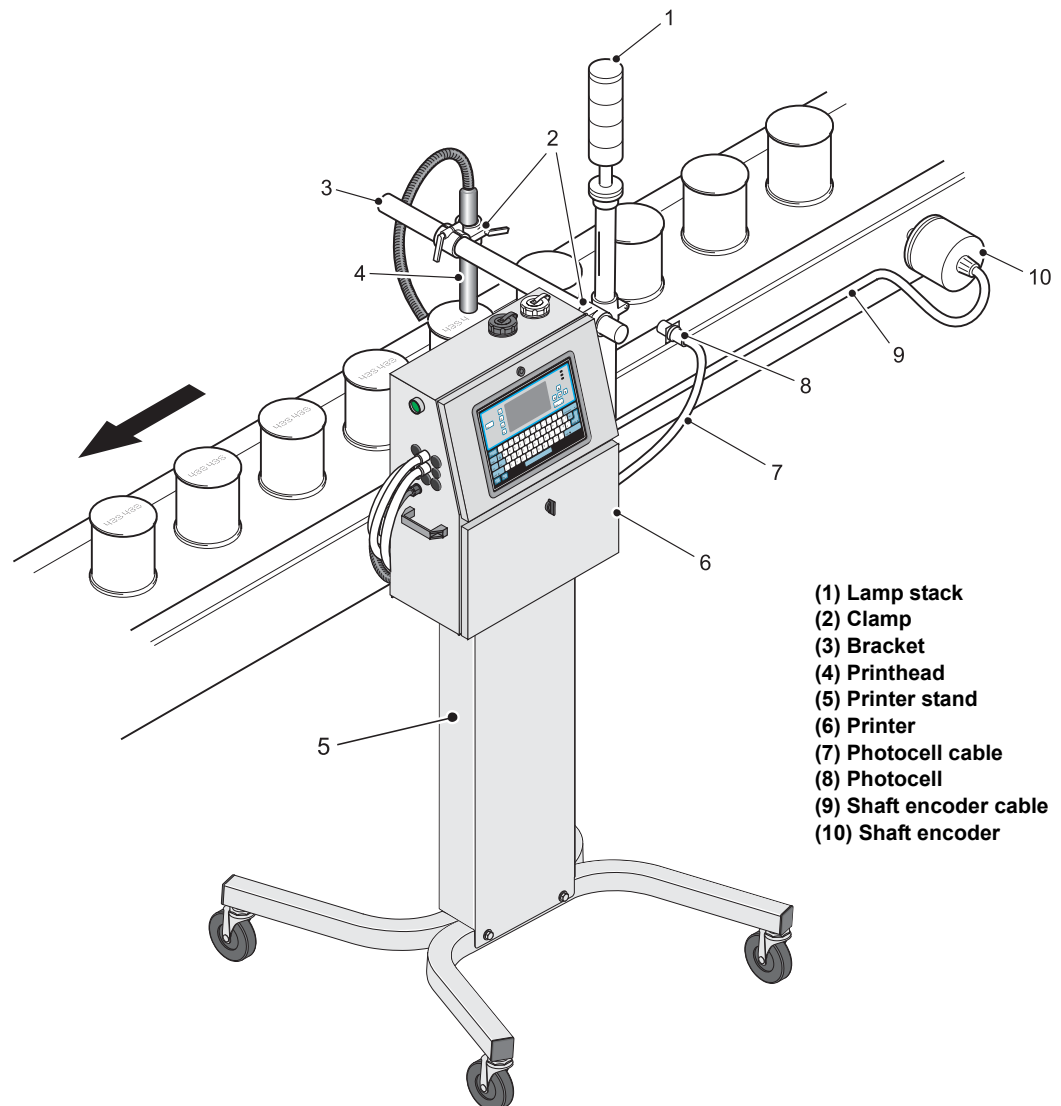

Figure 2-4. Typical Production Line Installation
A typical installation is shown in Figure 2-4, where the printer (6) is mounted on a printer stand (5). The printhead (4) is configured to print vertically via a clamp (2) and bracket (3) assembly. A lamp stack (1) is fitted to the printer stand.
Figure 2-4 shows an external shaft encoder (10) connected via a cable (9) to the SHAFT ENCODER connector on the connector panel.
Figure 2-4 shows a photocell (8) connected via a cable (7) to PRINT TRIGGER 1 on the connector panel.